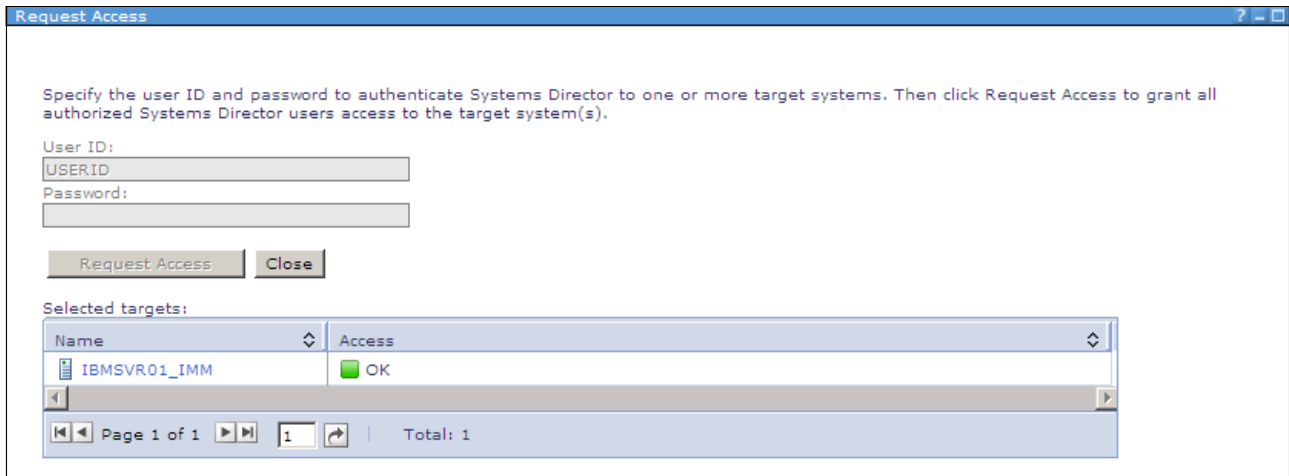

Figure 9-24 Successful authentication to an IMM
12. A successful authentication to an IMM yields an OK access status, as shown in Figure 9-24. Click **Close** when finished.